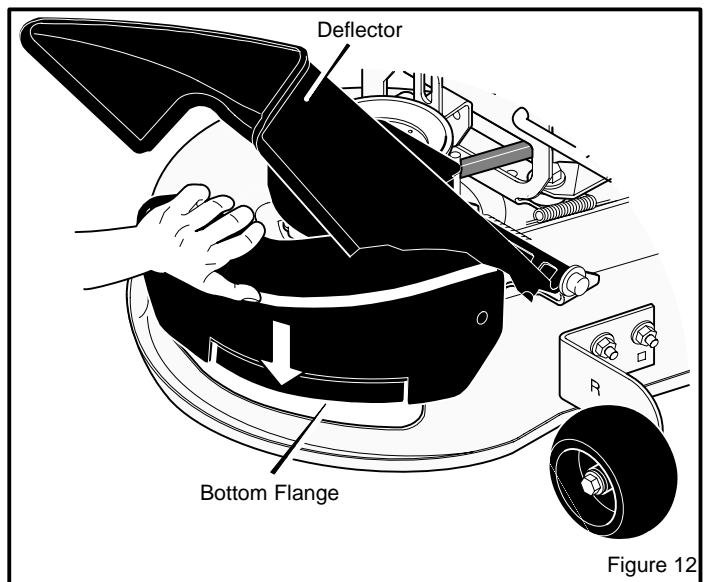

Figure 12
2. Lift the **mulcher plate** away from the mower housing (Figure 12).
1. Raise the **deflector**. Mount the bottom flange of the **mulcher plate** to the mower housing (Figure 12).